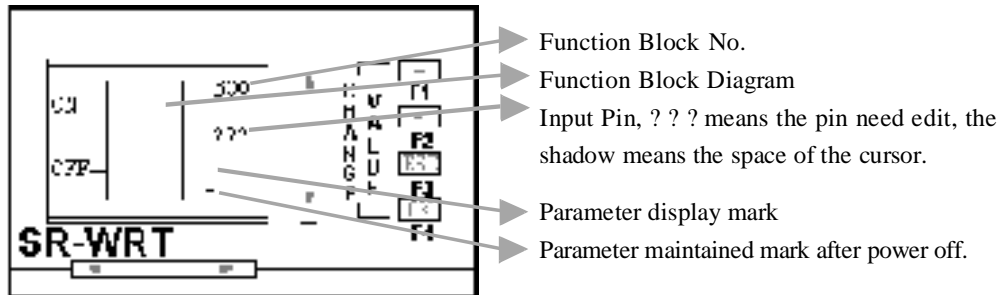

Fig. 10.31 Function Block Edition Interface
1. Select the function. In Fig. 10.7, move “>” before 17 SCHD and press OK to enter Fig. 10.8. Move “>” before YES and press OK key to enter Fig. 10.31, Function Block Edition Interface.
In Fig. 10.31, B00 is the sequence No. of the function block, which is produced automatically in programming and is not able to be edit. The ON of the left side means the space to modify the ON date and the OFF of the left side means the space to modify the OFF date.
In Fig. 10.32, “_” is the cursor. The space of the cursor can be changed via UP, DOWN, LEFT, RIGHT and the data or module of the cursor can be changed via +, -. In Fig. 10.32, change the YEAR into DAY and change time to 6:30, thus the time of ON is set. Press OK key to return to Fig. 10.31. But at this time the cursor will be “■” and be on the “O” of ON. The input of this point can be selected via +, -. If “-” is selected, which means this point is not used. If this point is needed, select “On” and press “OK” key, change cursor to “_”. Then select and edit other points.
6. Return to Fig. 10.7, Function Block Selection interface. The edit of function block B00 is finished via the above steps. Press ESC, all the points are edit correctly and return to Fig. 10.7. Otherwise the wrong points will be displayed in Fig. 10.31 as “? ? ?”. And the cursor will be in the first “?” as the form of “■” and wait for the edition. And the mistakes at this space include the following three points:
Select and Edit B01: Via the above procedure, select function block 17SCHD. Through the confirmation in Fig. 10.8, it will enter Fig. 10.31, function block edition interface. But the B00 is changed into B01, which means the function block edited is the second
In Fig. 10.34, Step Sequence Output Edit Interface, “_” is the cursor. The step sequence can be edit via UP, DOWN, and the space of the step sequence can be edit via LEFT, RIGHT. Notes: Q cannot be selected. Only XX can be selected and edited. Change the data of the cursor via +, -. Change QXX to the output we needed. In edition procedure, please be attention the following notes. 1. When editing the step sequence, the output of the above step sequence cannot be as QXX. It must be on detailed output. If we want to edit Out 4 =QA3, then the output port of Out1, Out2, Out3 cannot be QXX. They must be the detailed output, for example, Out1=QA0, Out2=QA1, Out3=QA2 and so on. 2. To be convenient to the user, we design the menu as circle menu. For example, in Fig. 10.31, if the cursor in the second line of the WRT (caused by the first action prompt). The symbol of the above step sequence is Out1. Now Out8 is needed to be edited. Pressing DOWN eight times is too trouble. Directly press UP key one time. The cursor will be on Out8 directly and user can edit.